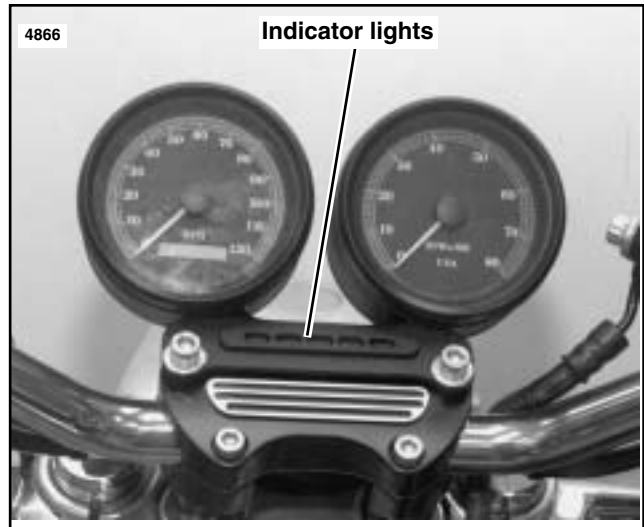

Figure 8. Kit Installed
- 10a. See Figure 8. Place the indicator light bezel and color strip on front of dual bracket. Be sure color strip is positioned on locating pins.
- 11a. See Figure 8. Place speedometer/tachometer assembly in position and install screws, but do not tighten.